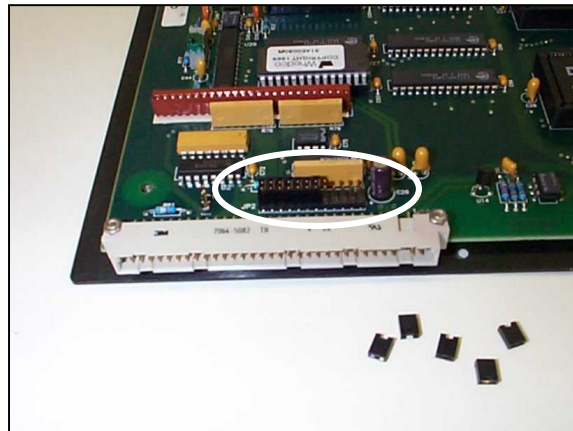

Figure 6. JP2 Connector and Jumpers
6. **Install Jumpers.** Install each of the 12 jumpers on the gold JP2 connector pins located directly above the Grey J5 connector on the lower-left corner of the board. Insert each jumper vertically from left to right on each pair of connector pins located at the JP2 site on the board, as shown in Figure 6.